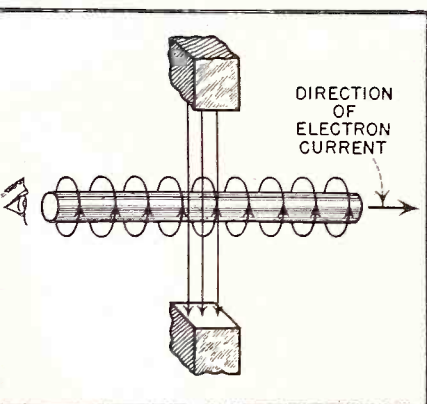
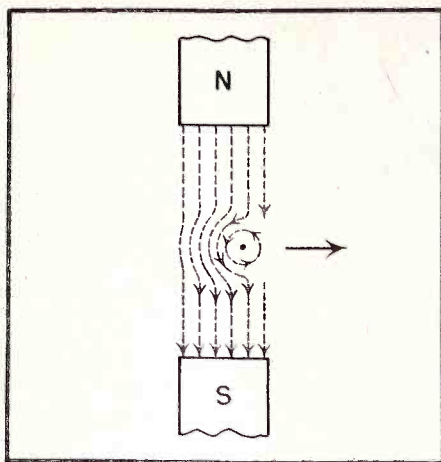

Fig. 5. Direction of generated magnetic field for current shown.
Fig. 6. Magnetic force on conductor
- Observe Fig. 5. Under the left hand rule the current moving away from the observer generates a magnetic field moving counterclockwise.
3. Look again at Fig. 5. The picture the observer's eye sees is shown in the side view Fig. 6. Now then, the lines of force of the magnet join certain lines of force of the conductor. This occurs when the lines are in conjunction. (Going the same way.) Certain other lines on the other side of the conductor oppose lines of the magnet, causing cancellation of force there. The result, then, is that the conductor itself (or the electron beam itself, if used) is physically pushed by the co-ordinating lines of